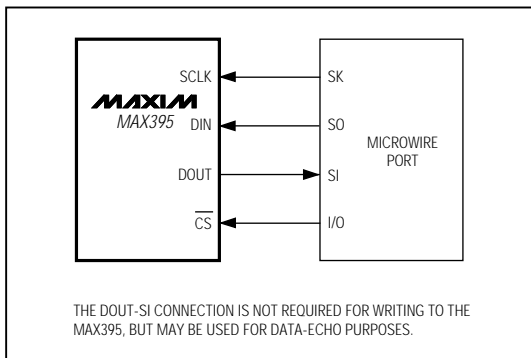

Figure 3. Connections for Microwire
**Note 7:** Between any two switches. See Figure 3.